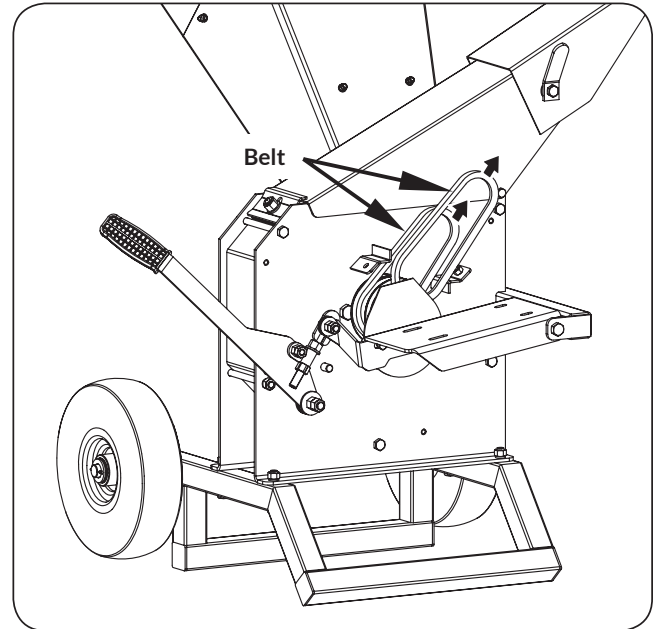

Figure 28
5. Slip the old V-belts from the engine pulley and cutting disk pulley then install the new V-belts. Align the engine pulley and cutting disk pulley by moving the cutting disk pulley in or out on the rotor shaft. Do not adjust by attempting to move the engine pulley on the engine shaft. (See Figure 28)